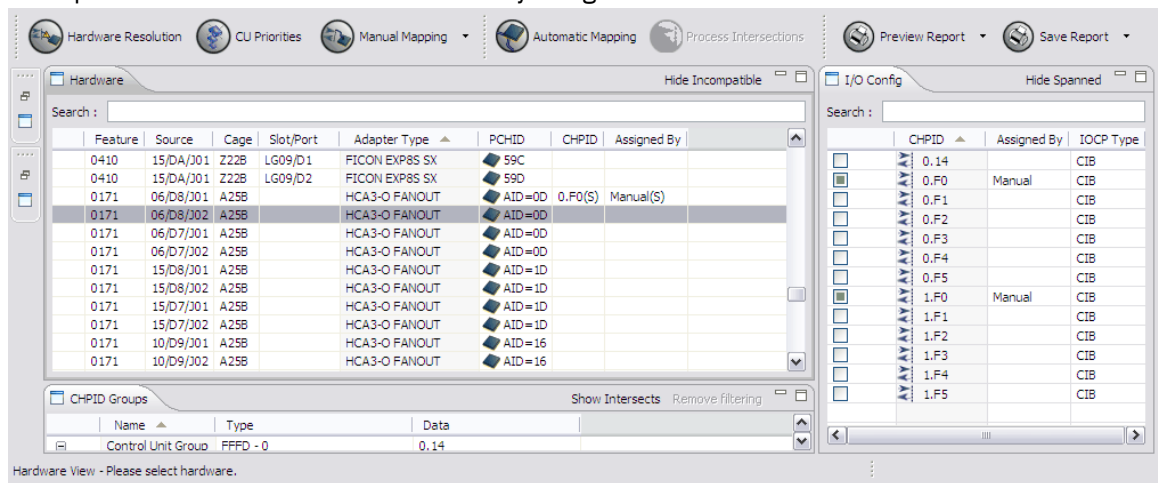

Figure 123. Green square inside check box means CHPID is unavailable
- iii) In the I/O Config pane, a check box might have a green square in it. This means the CHPID is already assigned to another PCHID and you cannot select it. Figure 123 on page 96 shows an example. CHPIDs 0.F0 and 1.F0 are already assigned.